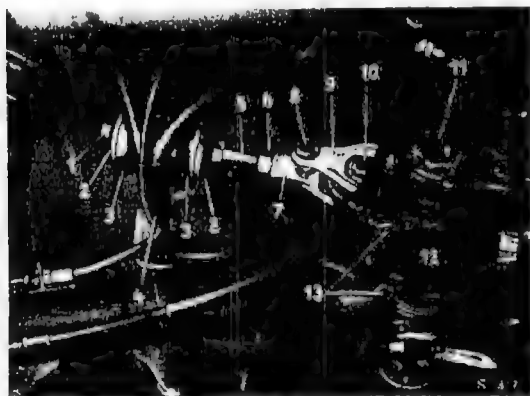

Fig. 40-3/14
To adjust the center position and the axle positioning distance of the rear axle, loosen the hexagon nut (lock nut) (6) and the hexagon nut with lock nut on the cross strut (5). Then turn the cross strut in or out as required (Fig. 40-3/14).